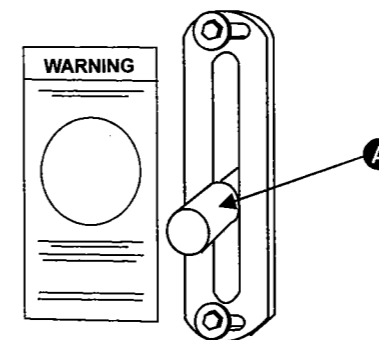

FIGURE 7
2. Use the locking mandrel on the right side of the machine (A), Figure 7, to lock the shaft in place. Follow the instructions on the label next to the mandrel.
2. Engage the locking mandrel (A-Figure 7) to lock the main shaft.